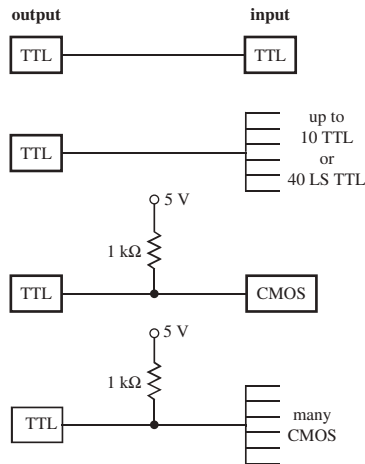

Figure 6.30 Interfacing TTL to digital devices.
Figure 6.30 shows how to interface TTL to different combinations of digital ICs. The output of a TTL device sinks current when it is low and sources current when it is high. The TTL low sink current (I_{OL}) is the limiting factor when interfacing to multiple TTL inputs. A TTL output can drive up to 10 standard TTL inputs or up to 40 Low-power Schottky (LS) TTL inputs. TTL outputs are easy to interface to CMOS due to the insulating gate input, which draws no steady-state current. It is necessary only to ensure voltages match when connecting TTL outputs to CMOS inputs. Referring back to Figure 6.22, a TTL low output will match a CMOS low input just fine. However, a TTL high may be as low as 2.7 V, which is not enough to match the 3.5 V input required by CMOS. As shown in Figure 6.30, using a pull-up resistor on the TTL output will raise the output voltage above the 3.5 V required by a CMOS input. The pull-up resistor must be large enough (e.g., 1 kΩ) that the TTL low sink current (I_{OL}) for the device is not exceeded. If power consumption is a concern, the pull-up resistor can be even larger.